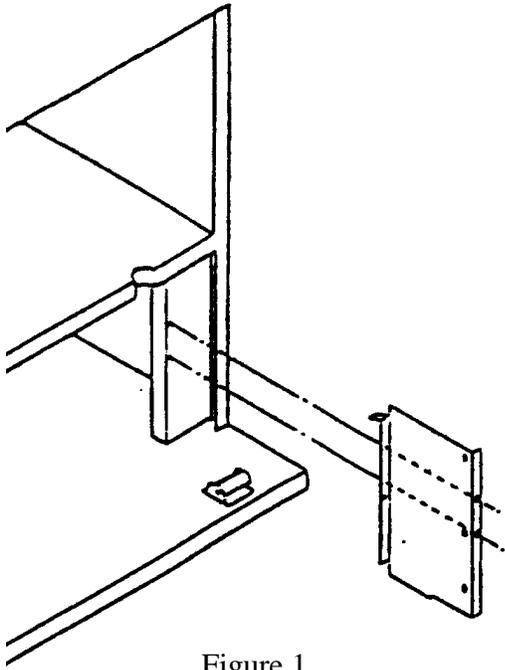

Figure 1
3. On Ranson built venders with old style (6" wide) base boxes, install new right hand baffle (805,800,67x.x1) and secure. See figure 1, page 6.